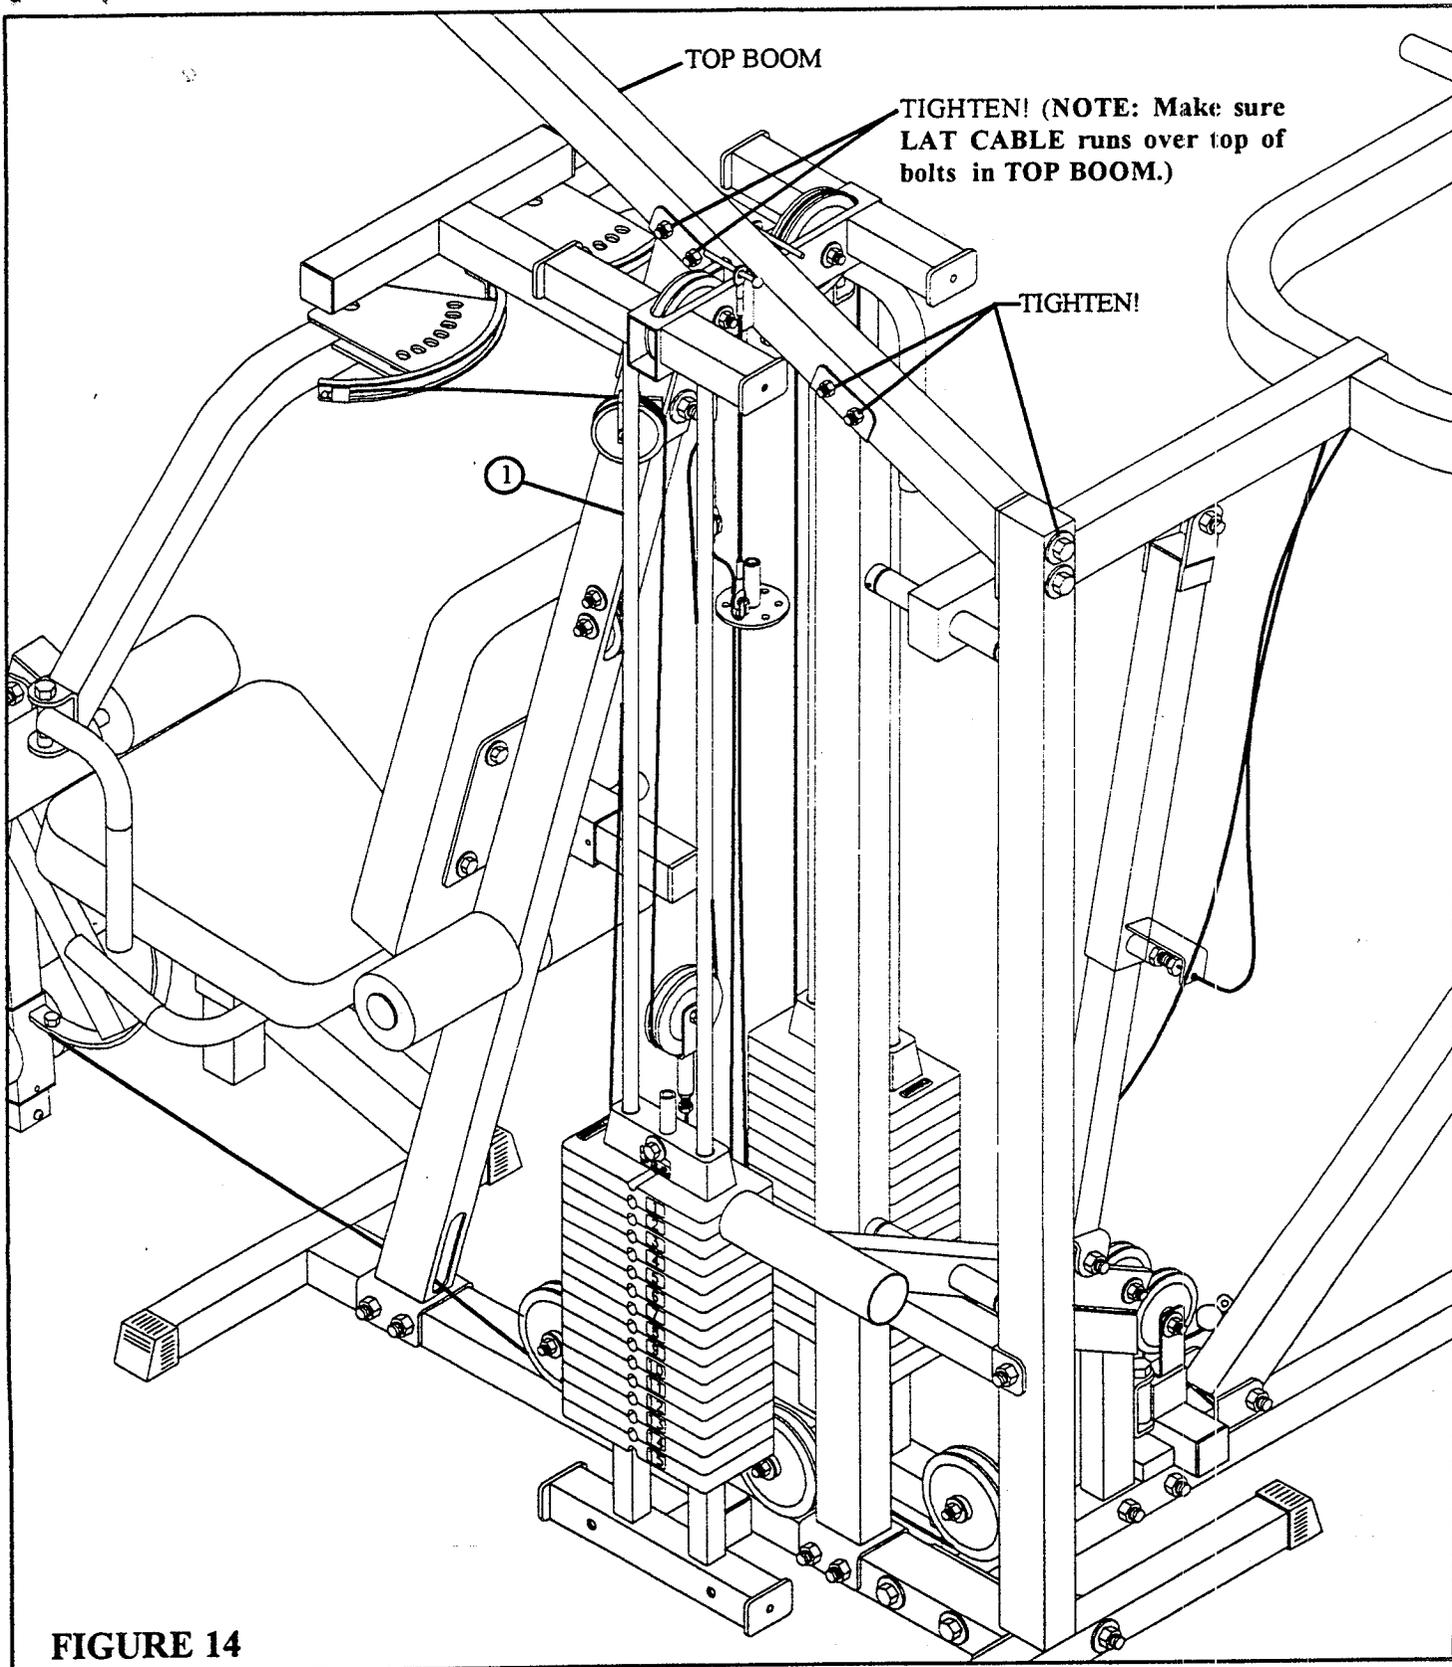

**FIGURE 13**
- Insert four CAP PLUGS (9) into the top and bottom ends of the GUIDE RODS (1) as shown in FIGURE 13.
- **SECURELY** assemble the WEIGHT STACK SHAFT (2) to the HEAD PLATE (4) using one 3/8 X 1-1/4" BOLT (14) and one 3/8" WASHER (10).
- Insert two GUIDE RODS (1) into the BASE as shown on FIGURE 13. (NOTE: Lubricate GUIDE RODS (1) with silicon or teflon spray available at most hardware stores.)
- Slide two 1-1/4 SQ. X 4-7/8" TUBES (3), two 3/4" WASHERS (15), and two WEIGHT STACK CUSHIONS (8) - IN THAT ORDER - down over the GUIDE RODS (1).
- Using **EXTREME CARE** slide all fifteen WEIGHT PLATES (16) down over the GUIDE RODS (1) on to the WEIGHT STACK CUSHIONS (8). Make sure that the keyholes of the WEIGHT PLATES (16) are all facing the right way.
- Slide the head plate assembly down over the GUIDE RODS (1) onto the weight stack.
- Attach the WEIGHT STACK LABELS (18) to the weight stack. Also insert the WEIGHT STACK PIN (7) into the first WEIGHT PLATE (16) of the weight stack.